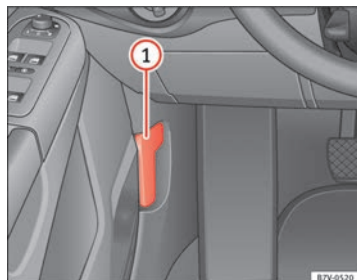

Fig. 168 In the footwell on the driver side: Lever for unlocking the bonnet
- Before opening the bonnet, make sure that the windscreen wiper arms are in place against the windscreen ⇒ ①.
- Pull the release lever ⇒ Fig. 168 in the direction of the arrow. The bonnet is released from the lock carrier by a spring mechanism ⇒ ⚠.